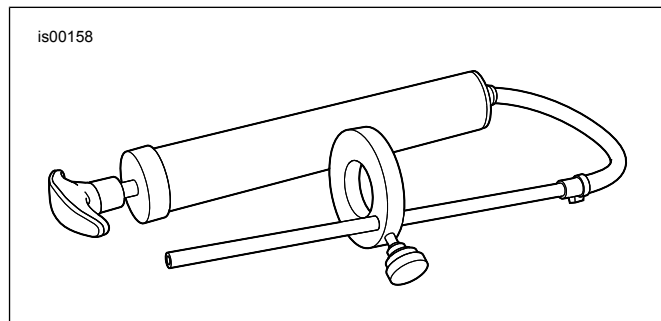

Figure 4. Front Fork Oil Level Gauge (HD-59000B)
- a. See Figure 4. Obtain the Front Fork Oil Level Gauge (HD-59000B).
- See Figure 4. Obtain the Front Fork Oil Level Gauge (HD-59000B).